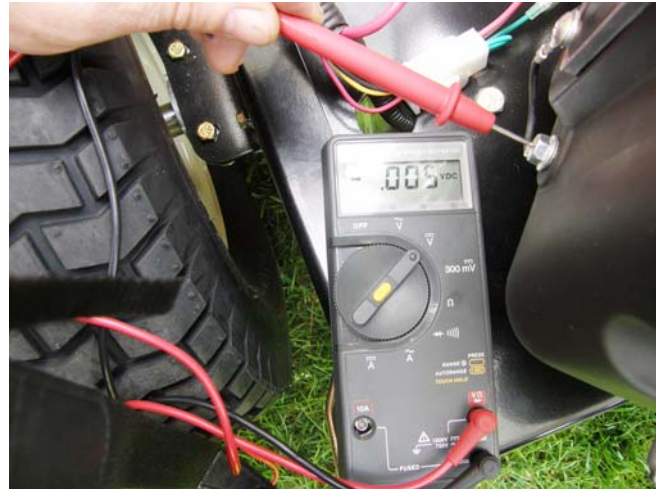

Figure 7.21
6. Regulator/rectifier check: See Figure 7.21.